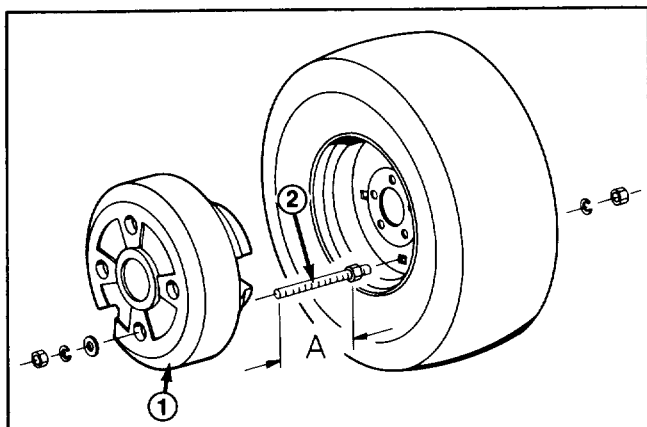

Figure 16
- Add 3-7/8" to measurement attained. This becomes dimension "A" in figure 16.
- Insert threaded rods through 2 opposite holes in rim and secure in place with 1/2" lockwashers and hex nuts (Fig. 16).
and hex nuts (Fig. 16). Do not overtighten hex nuts or damage to the plastic housing of the weight may occur.